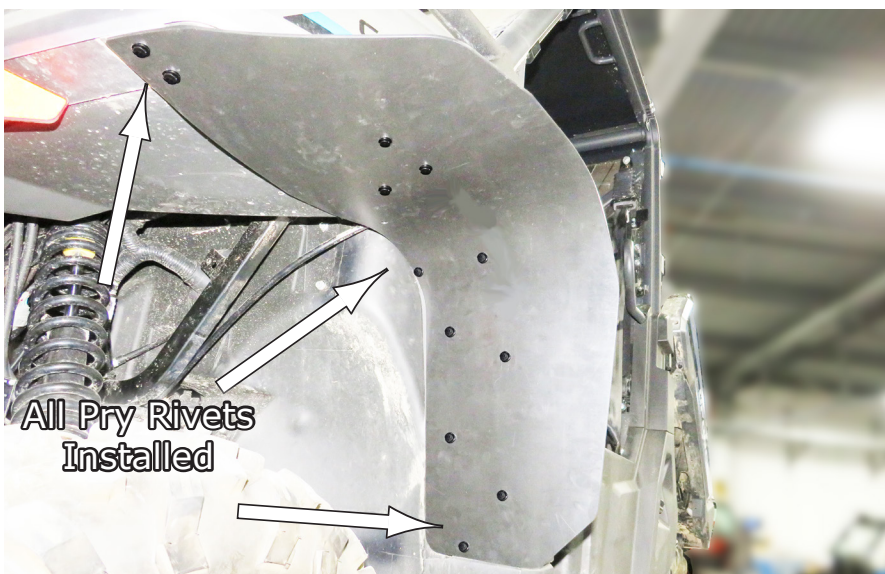

Fig.3
3. Now install Pry Rivets in the remaining holes with the Pry Rivets provided in your kit. When finished, your Flare should look like the one in **Fig.3**.